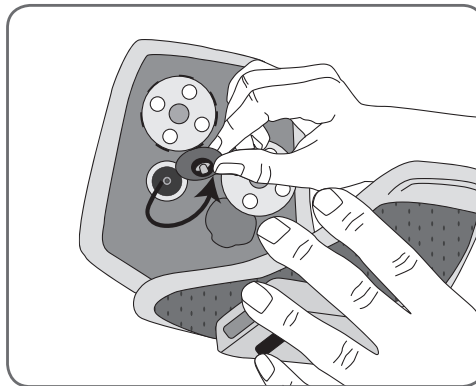

Figure 8-22: Unsnapping the L300 hydrogel electrode bases.
3. Unsnap the L300 hydrogel electrode bases from the L300 FS Cuff plug holes. See Figure 8-22.